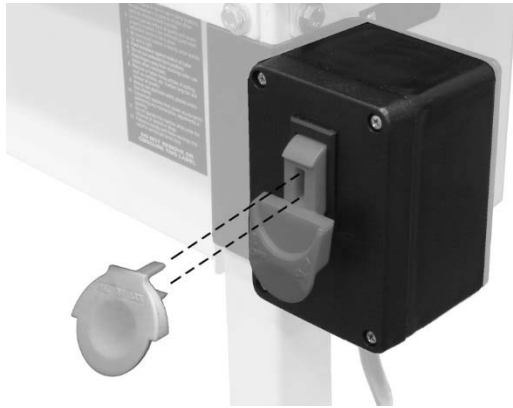

Figure 8-1
5. Power switch (Figure 8-1): Pull up paddle to start router, push down to stop. To prevent accidental or unauthorized use of router, pull out safety key. Key must be reinserted to start router.